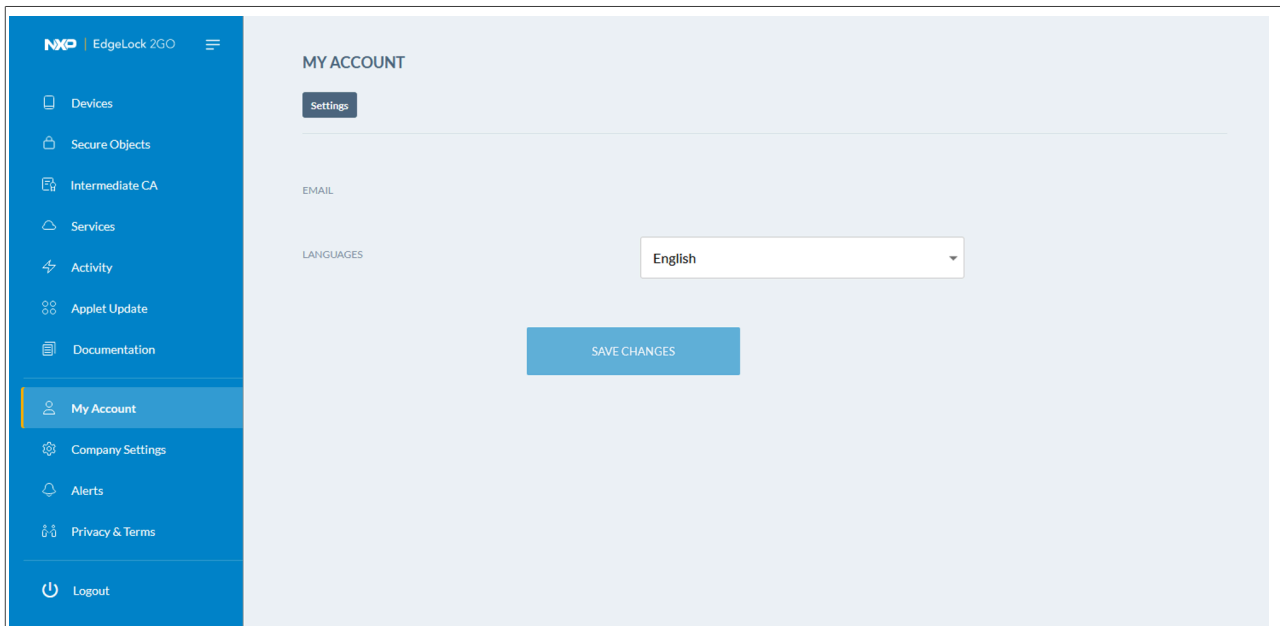

Figure 10. EdgeLock 2GO homepage
5. You should now see the homepage of EdgeLock 2GO as shown in Figure 10: